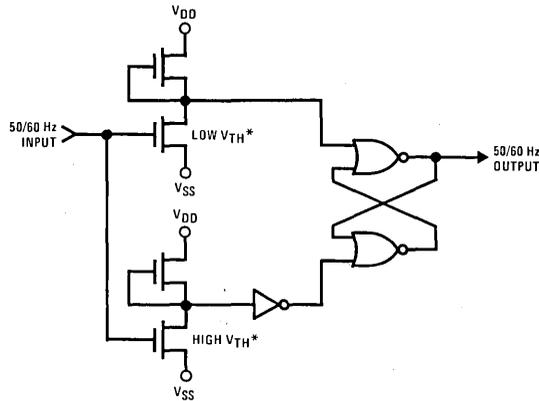
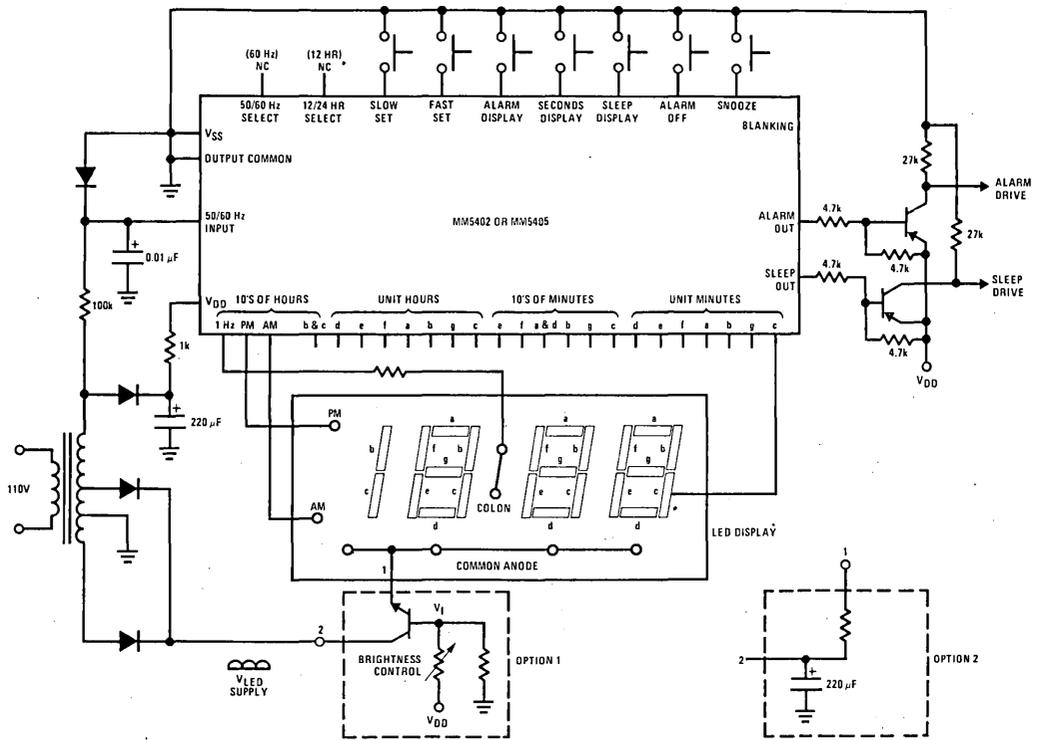

FIGURE 3. 50/60 Hz Input Shaping Circuit
FIGURE 7
**50 or 60 Hz Input:** A shaping circuit (*Figure 3*) is provided to square the 50 or 60 Hz input. This circuit allows use of a filtered sinewave input. The circuit is a Schmitt trigger that is designed to provide about 0.8V hysteresis. A simple RC filter such as shown in *Figure 7*, should be used to remove possible line-voltage transients that could either cause the clock to gain time or damage the device. The shaper output drives a counter chain which performs the timekeeping function.
Figure 7 is a schematic diagram of a general purpose alarm clock circuit (12-hour mode) using the MM5402 or MM5405 and a 3 1/2-digit LED display.